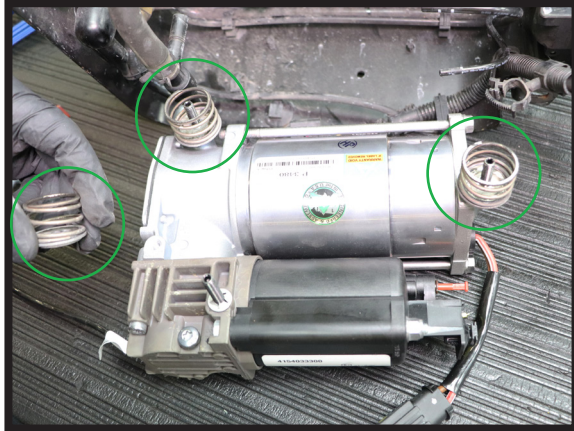

FIGURE 22
3. REUSE THE FACTORY WASHERS, SPRINGS, AND TORX HEAD CONNECTOR NUTS TO ATTACH THE NEW COMPRESSOR TO THE COMPRESSOR/VALVE BLOCK ASSEMBLY BRACKET. (FIGURES 22, 23, 24, 25)